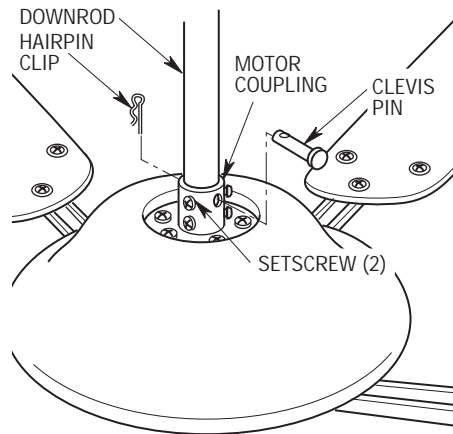

Figure 8
- 12. Unscrew the two upper setscrews (Figure 8) until they clear the inside of the motor coupling. Then separate, untwist and unkink the three 80" motor leads. Route the motor lead wires through the downrod. Align the clevis pin holes in the downrod with the holes in the motor coupling. Install the clevis pin and secure with the hairpin clip (Figure 8). The clevis pin must go through the holes in the motor coupling and the holes in the downrod. Be sure to push the straight leg of the hairpin clip through the hole near the end of the clevis pin until the curved portion of the hairpin clip snaps around the clevis pin. The hairpin clip must be properly installed to prevent the clevis pin from working loose. Pull up on the downrod to make sure the clevis pin is properly installed.
- 13. Tighten the two upper setscrews (Figure 8) securely while pulling up on the downrod.
It is critical that the clevis pin in the motor coupling is properly installed and the setscrew securely tightened. Failure to verify that the pin and setscrew are properly installed (as shown in Figure 8) could result in the fan falling.